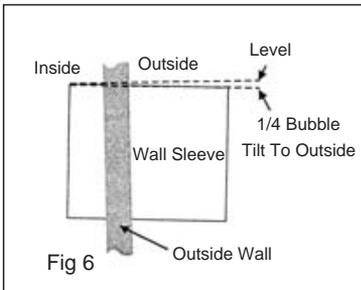
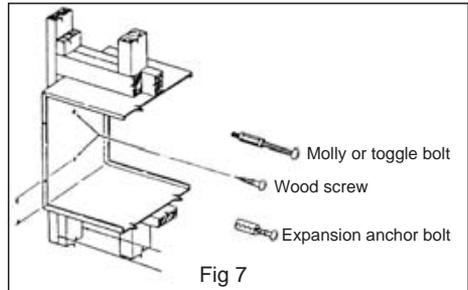

Fig 6
Fig 7
- To ensure the unit's maximum efficiency,the sleeve must be installed a slight downward pitch from the indoor side to the outdoor side(Fig 6),then fasten the wall sleeve(Fig 7)